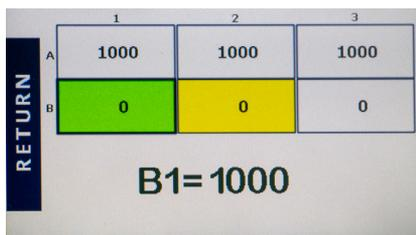

Fig. 54—The preview screen for a 6-well plate show the A1-A3 cell data taken (1000).
the sequence. Press the foot switch to take a measurement and advance to the next well (Fig. 54).
2. Repeat the sampling process. Press the **Preview** button to see the measurements that have been taken (Fig. 54).